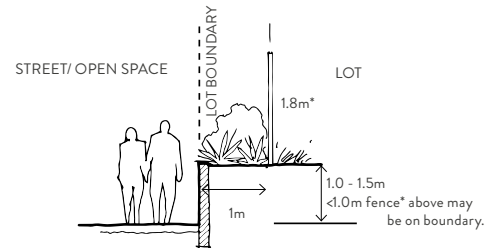

Figure 6 | Retaining Wall/ Side Fence: Secondary Street Interface
- Retaining walls along side or secondary street boundaries may exceed 1.0m (up to 1.5m) if designed in accordance with Figure 6. Any 1.8m fencing above the wall must begin at least 5.0m behind the primary building line.